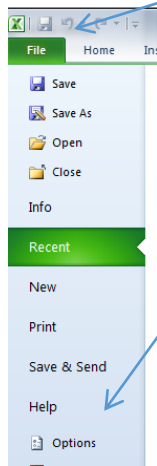
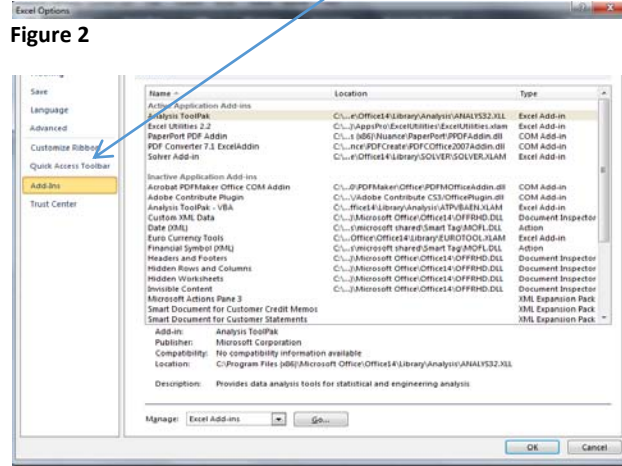

Figure 1
Figure 2
1. Click on the **File** tab, click **Options** (Figure 1), and then click the **Add-Ins** category (Figure 2).